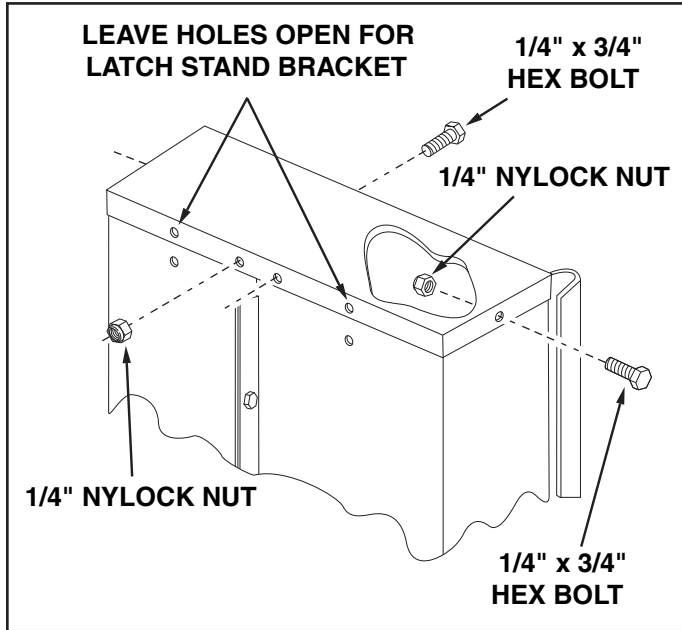

FIGURE 4
9. Assemble the front panel over the opposite end of the cart using four 1/4" x 3/4" hex bolts and 1/4" nylock nuts as shown in figure 4. Leave two holes open in the bottom of the panel as shown in figure 4. With the cart body halves pulled together, **tighten** the two bolts in the bottom of the front panel, then **tighten** the bolt in each side.